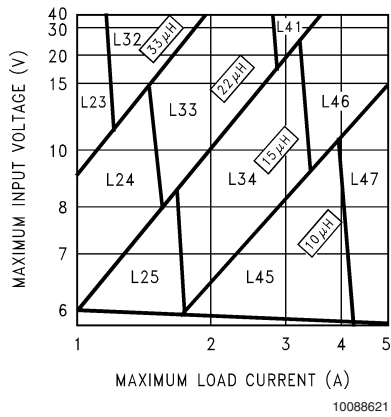
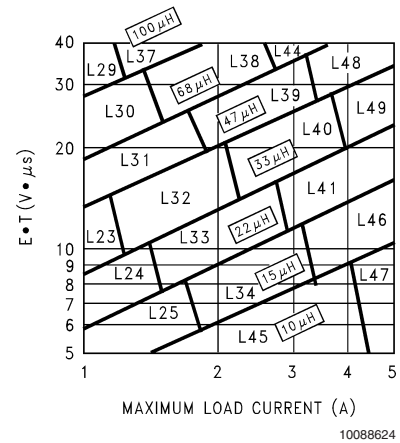

FIGURE 3. LM2678-3.3
FIGURE 6. LM2678-ADJ
Step 3: Determine the inductor required by using one of the four nomographs, *Figure 3* through *Figure 6*. Table 1 provides a specific manufacturer and part number for the inductor.
Step 5: Determine an input capacitor from Table 4 for fixed output voltage applications. Use Table 2 to find the specific capacitor type. For adjustable output circuits select a capacitor from Table 2 with a sufficient working voltage (WV) rating greater than $V_{in\ max}$, and an rms current rating greater than one-half the maximum load current (2 or more capacitors in parallel may be required).
Step 3: Use the nomograph for the 3.3V device, *Figure 3*. The intersection of the 16V horizontal line ($V_{in\ max}$) and the 4A vertical line ($I_{load\ max}$) indicates that L46, a 15 μ H inductor, is required.
Step 3: To use the nomograph for the adjustable device, *Figure 6*, requires a calculation of the inductor Volt•microsecond constant ($E \cdot T$ expressed in $V \cdot \mu s$) from the following formula:
Using *Figure 6*, the intersection of $27V \cdot \mu s$ horizontally and the 3.5A vertical line ($I_{load \max}$) indicates that L48, a 47 μH inductor, or L49, a 33 μH inductor could be used. Either inductor will be suitable, but for this example selecting the larger inductance will result in lower ripple current.
Important Note: When using the adjustable device in low voltage applications (less than 3V output), if the nomograph, *Figure 6*, selects an inductance of 22 μH or less, Table 6 does not provide an output capacitor solution. With these conditions the number of output capacitors required for stable operation becomes impractical. It is recommended to use either a 33 μH or 47 μH inductor and the output capacitors from Table 6.